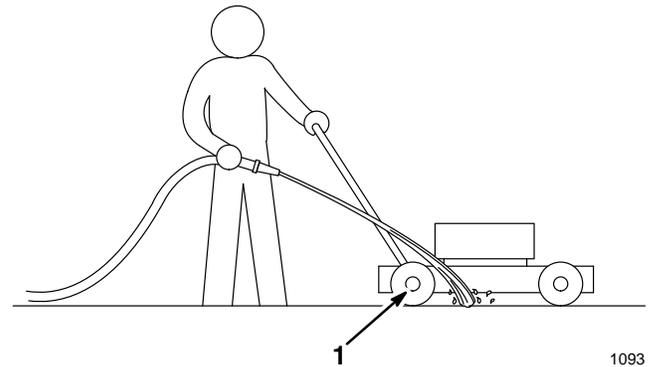

Figure 29
4. Hold the running garden hose at handle level and direct water to flow on ground just in front of right rear tire (Fig. 29). The rotating blade will draw water under the housing and wash out clippings. Let the water run for a few minutes or until you no longer see clippings being washed out from under housing.